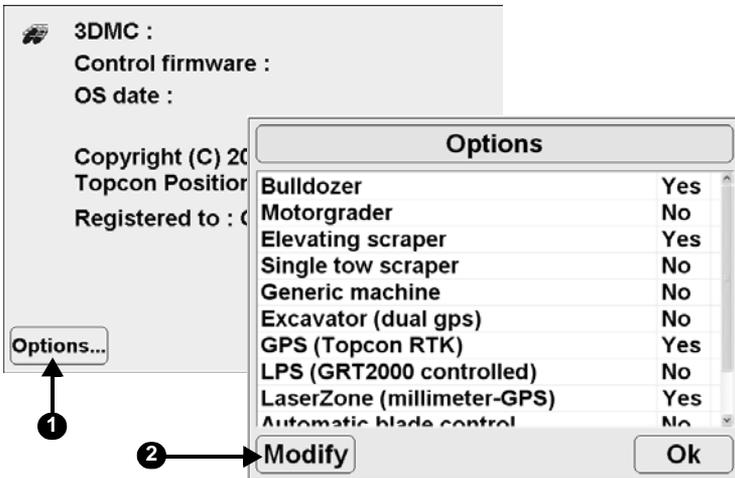

Figure 1-2. View 3DMC Options
1. Tap **Topcon Logo** ▶ **View** ▶ **About 3DMC**. Press **Options**, then press **Modify** (Figure 1-2).